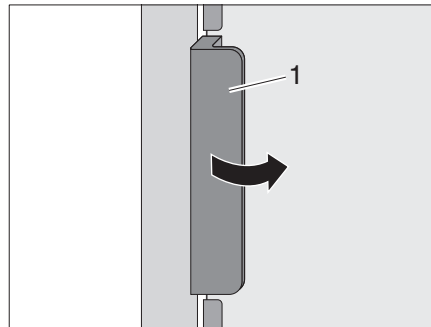
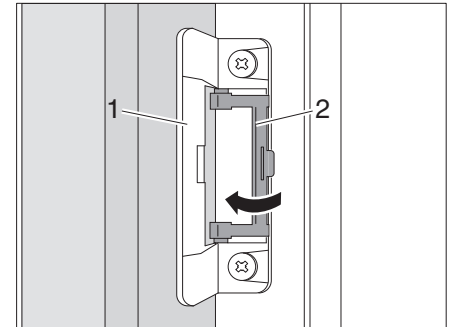

Fig. 118 Opening the refrigerator door
Fig. 119 Locking in the ventilation position
- Open the refrigerator door using the handle (Fig. 118,1). The locking mechanism (Fig. 119,1) is released automatically.
- Fold open the latching mechanism (Fig. 119,2).